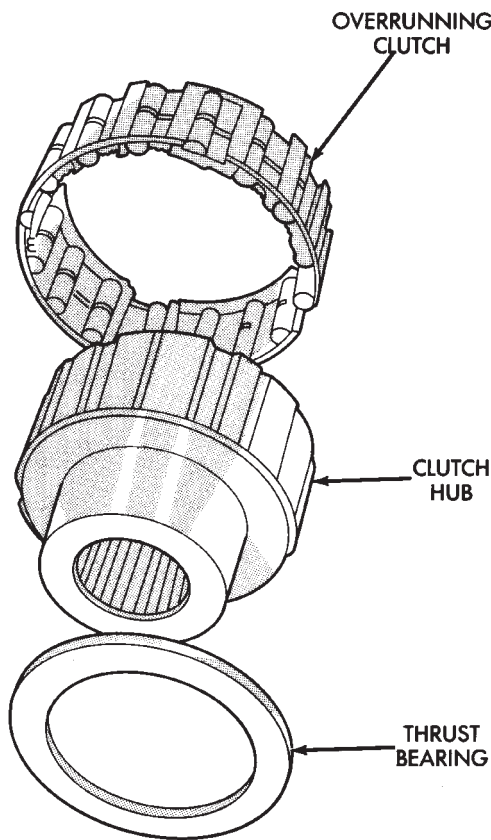

Fig. 26 Overrunning Clutch Components
(4) Remove thrust bearing from overrunning clutch hub (Fig. 26).
(5) Remove overrunning clutch from hub (Fig. 26).